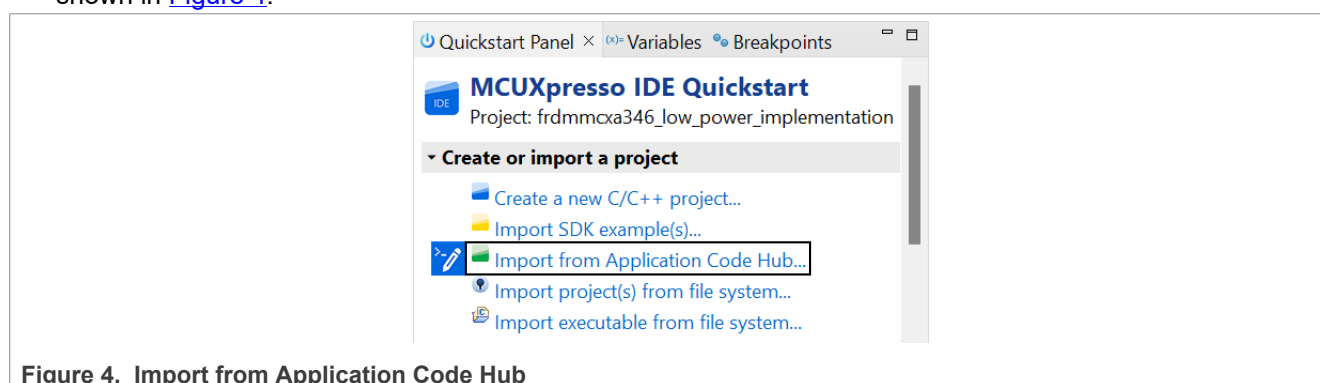

Figure 4. Import from Application Code Hub
1. Open MCUXpresso IDE v25.6. In the **Quickstart Panel**, select **Import from Application Code Hub**, as shown in Figure 4.